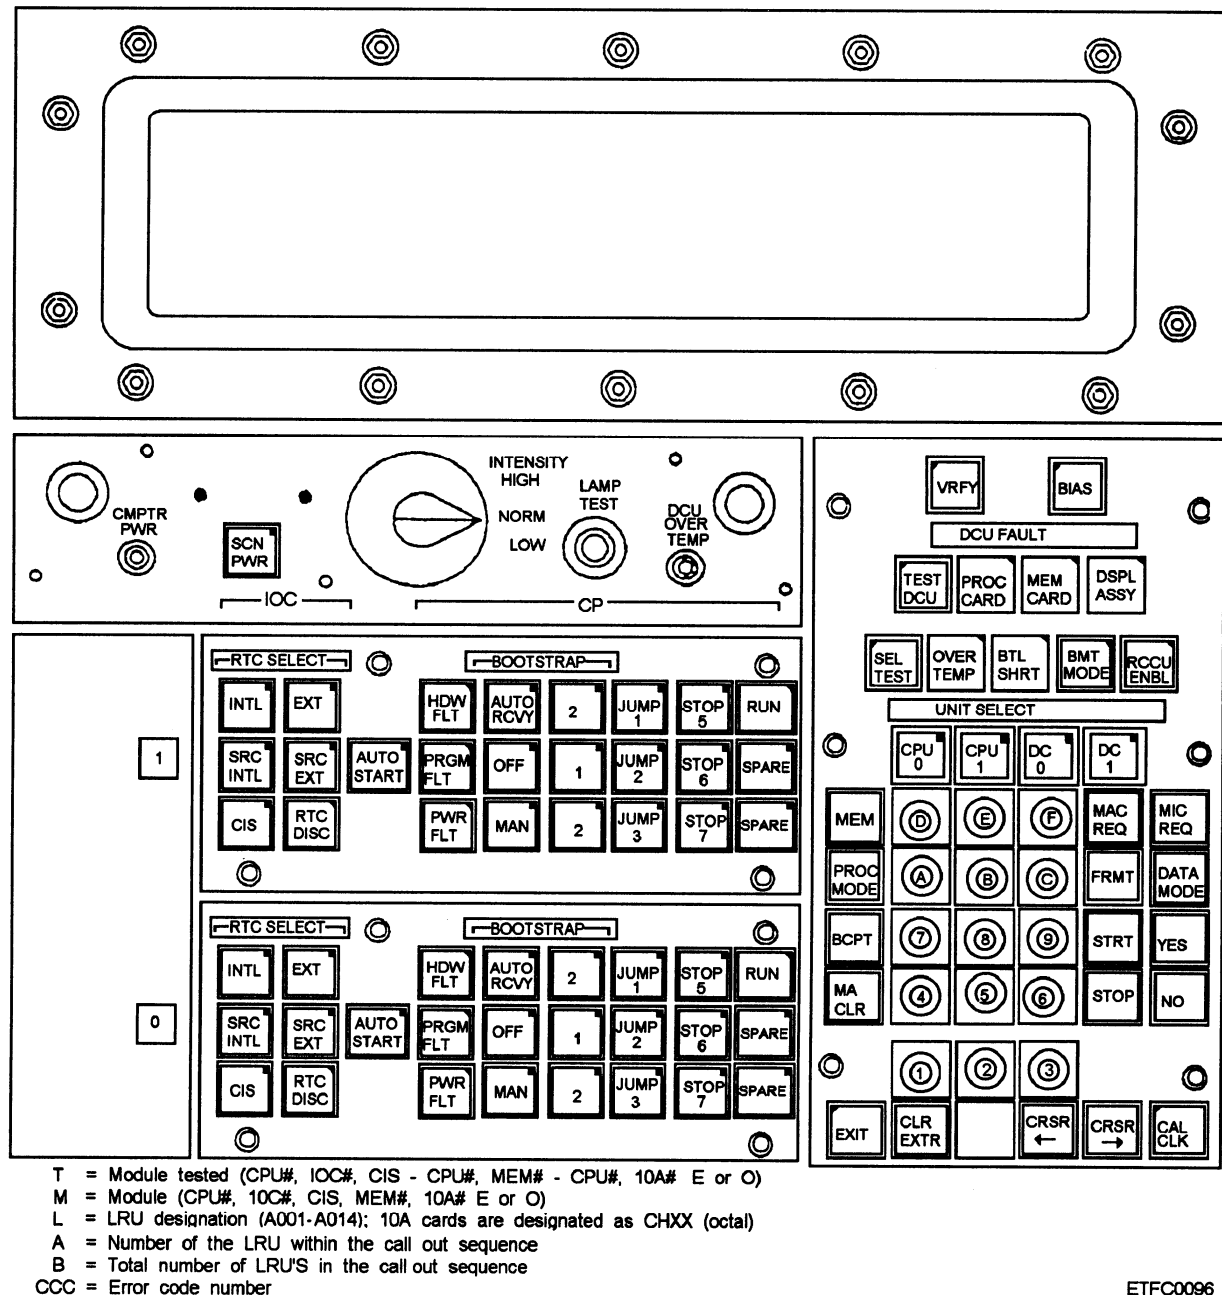

Figure 8-30.—Example of a display control unit.
we show a display control unit (DCU) in figure 8-30. Remote units are also available to provide initial startup just like the operator and display control units. Control, data entry, and data display man/machine interfaces of mainframes are your primary means of operating and maintaining a mainframe computer. You can control all operations from this man/machine interface. Newer mainframes, in addition to controls, switches, and pushbutton indicators, use displays and keyboards to display status and to address the contents of registers.
NDRO. They are designed to test the computer hardware (CPU, IOCs, and any optional circuits) and return pass/fail results to the operator. Pass/fail results are displayed on the control, data entry, and data display man/machine interface shown on figure 8-30. Similar to minicomputers, the BIT itself can consist of several levels of tests and subtests controlled from the computer's front panel. Some internal diagnostics are designed to test all or selected sections of the computer. Errors can be displayed on the front panel using the data display man/machine interface. The computer's technical manuals will enable you to decipher the error
**EXECUTE BOOTSTRAP.** —Execute bootstrap works in a manner similar to the function on minicomputers. An NDRO is used to perform this function. The NDRO is tailored at the factory and will select a particular peripheral device (disk, tape, and so forth) based on the position of the bootstrap switches (0, 1, or 2) located on the computer's controlling panel (maintenance, control, display control, or remote unit). To execute bootstrap, select bootstrap switch 0, 1, or 2 and depress the start switch (fig. 8-30). NDROs on mainframes may also be designed to perform a variety of tests or other functions that may be selected by use of the DIP switches.